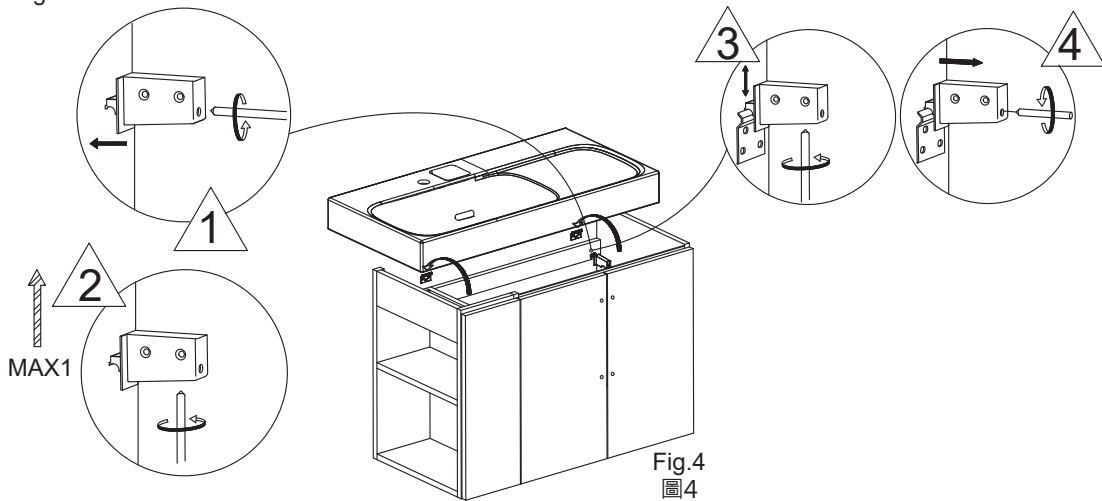

Fig.4
4. Hang the washbasin cabinet on the wall, and position the suspension on the hanged bracket, as shown in Fig.4.
5. Set the washbasin cabinet onto the wall bracket. Be sure the cabinet adjusted level and the back board of cabinet appressed to the wall by adjusting the screws of wall clips, as shown in Fig.4.
10. Set the washbasin cabinet onto the brackets. Be sure the cabinet adjusted level and the back board of cabinet appressed to the wall by adjusting the screws of wall clips, as shown in Fig.4.